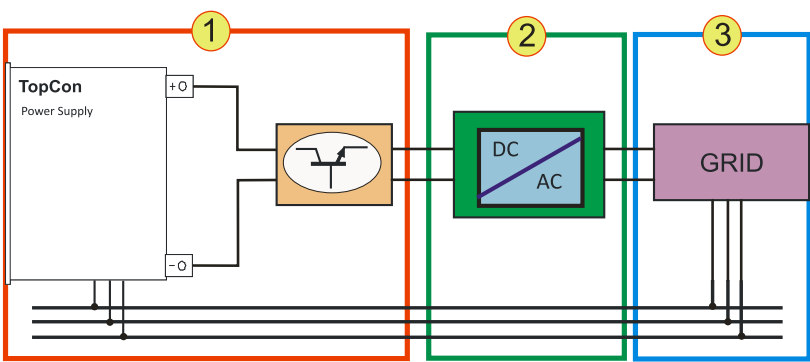

Fig. 71 Usage of the TopCon power supply as a test stand
- Type: socket for USB plugs of type B (see Fig. 71 USB interface -1- in combination with RS-232 REAR interface -2-.)